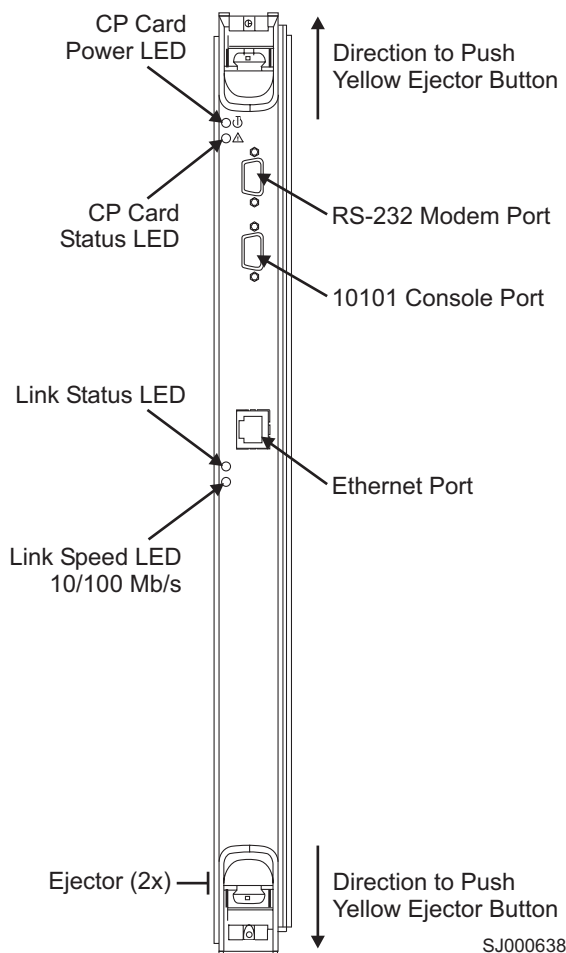

Figure 36. CP card showing ejectors
- b. Notify the switch of a hot-swap request by pushing the yellow tab on each ejector and clicking the black handles until they are slightly open. See Figure 36. Wait for the status LED to turn off.